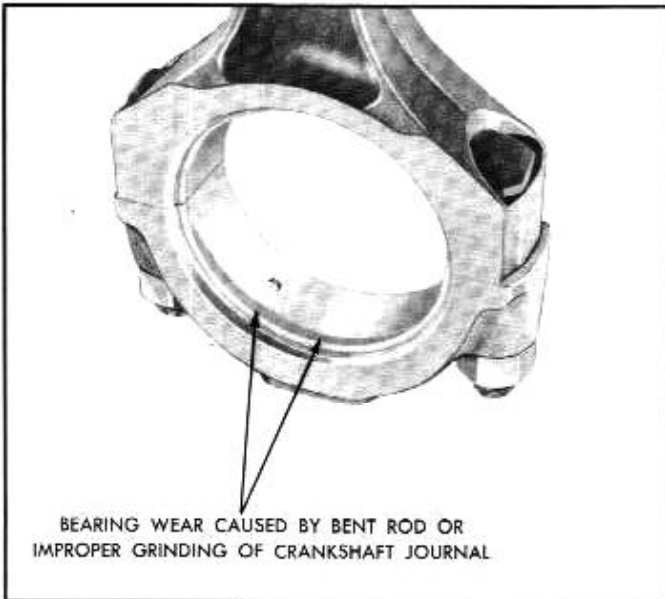

Fig. 6A-62—Wear Pattern On Connecting Rod Bearing
- Using the auxiliary starter switch, rotate crankshaft to position the respective connecting rod journals at B.D.C. for removal of connecting rod bearing caps and inserts. Remove palnuts and nuts securing bearing cap to connecting rod. Remove cap and bearing insert. Refer to figures 6A-61 and 6A-62 for typical examples of bearing failures. Bearings that have a scored, chipped or worn surface will have to be replaced.